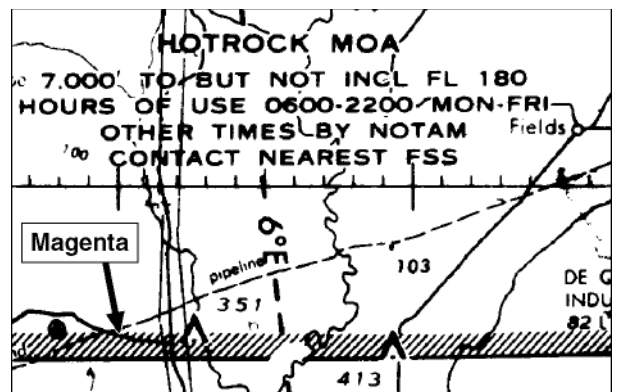

Figure 3-15. Military Operations Area
**Military Operations Areas (MOAs, Figure 3-15)** are shown on charts with magenta hatching; again, look at the areas surrounding R-6703A, B, C, and D east of Olympia (that's the Army's Fort Lewis firing range, if you are curious). The altitude and hours of MOA operations are often included on sectional charts either adjacent to the airspace or along the edges of the chart. Always confirm times of operation with FSS or ATC. You do not need permission to fly in a MOA, but military airplanes operate in them without restriction—the regulations do not apply to them while flying in a MOA. Military pilots are not only flying at high speed, but they are not spending much time looking for hard-to-see sUAS. Your FSS can tell you the status of a MOA, of course, but the ATC Center (ARTCC) in whose airspace the MOA exists will be in direct contact with the military flights and can advise them of your presence. Your preflight planning should include getting Center frequencies from the CS. Extreme caution should be exercised when operating near MOAs.